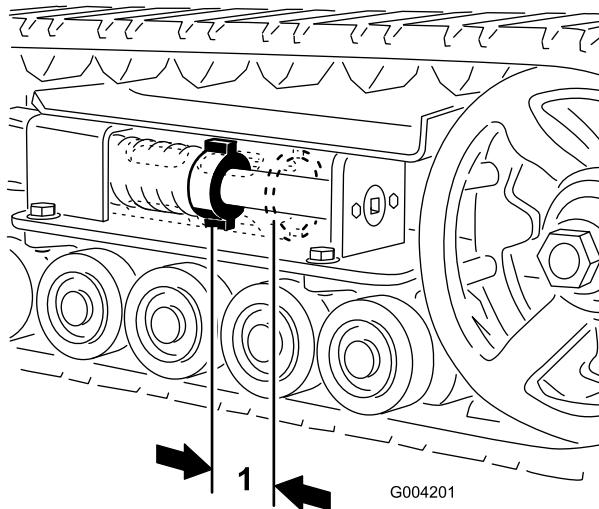
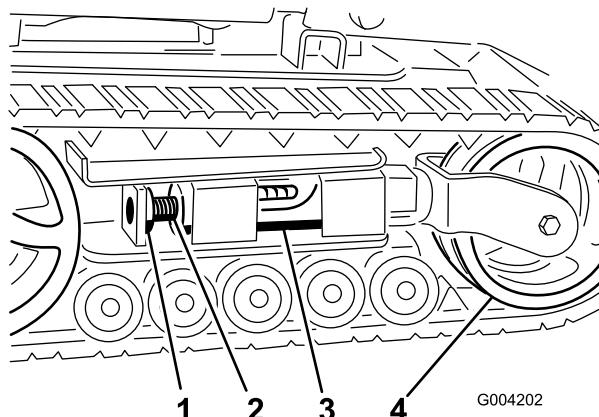
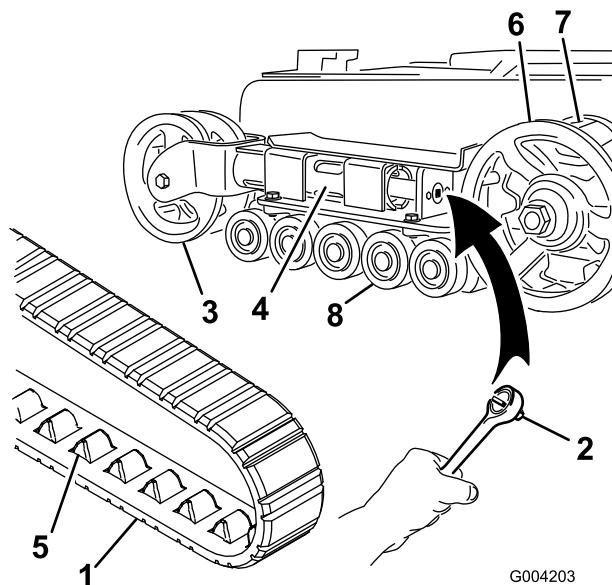
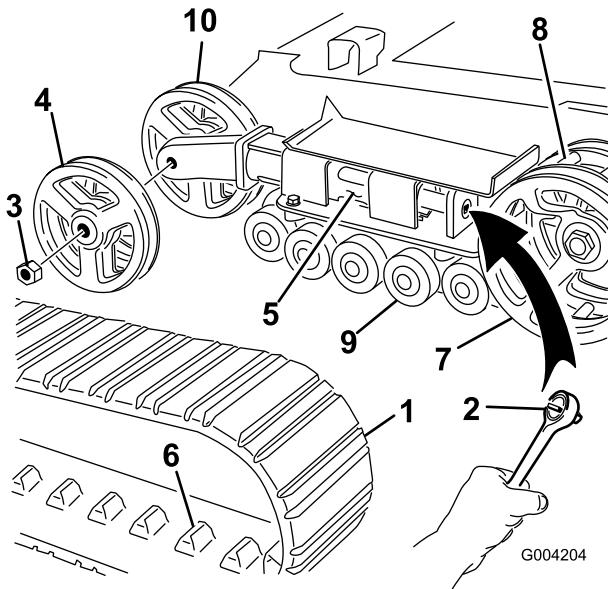

Figure 44
Figure 45
Figure 46
Figure 47
3. Remove the locking bolt and nut (Figure 45).
4. Using a 1/2 inch drive socket (Figure 46), turn the tensioning screw counter-clockwise until the distance between the tension nut and the back of the tension tube (Figure 44) is 2-3/4 inches (7 cm).
5. Align the closest notch in the tension screw to the locking bolt hole and secure the screw with the locking bolt and nut (Figure 45).
Check and adjust the track tension after the first 50 operating hours and every 100 operating hours thereafter. There should be 2-3/4 inches (7 cm) between the tension nut and the back of the tension tube (Figure 44). If not, adjust the track tension using the following procedure:
4. Using a 1/2 inch drive socket, release the drive tension by turning the tensioning screw clockwise (Figure 45 and Figure 46).
5. Push the tension wheel toward the rear of the unit to move the fork tube against the frame (Figure 46). (If it does not touch the frame, continue turning the tensioning screw until it does.)
7. When the track is off of the tension wheel, remove it from the drive sprocket and road wheels (Figure 46).
8. Beginning at the drive sprocket, coil the new track around the sprocket, ensuring that the lugs on the track fit between the spacers on the sprocket (Figure 46).
9. Push the track under and between the road wheels (Figure 46).
11. Turn the tensioning screw counter-clockwise until the distance between the tension nut and the back of the fork tube (Figure 44) is 2-3/4 inches (7 cm).
4. Using a 1/2 inch drive socket, release the drive tension by turning the tensioning screw clockwise (Figure 45 and Figure 47).
5. Push the tension wheel toward the rear of the unit to move the tension tube against the frame (Figure 47). (If it does not touch the frame, continue turning the tensioning screw until it does.)
6. Remove the nut securing the outer tension wheel and remove the wheel (Figure 47).
7. Remove the track (Figure 47).
8. Remove the nut securing the inner tension wheel and remove the wheel (Figure 47).
12. Install the inner tension wheel and secure it with the nut removed previously (Figure 47).
14. Install the new track, ensuring that the lugs in the track fit between the spacers in the middle of the drive sprocket (Figure 47).
15. Install the outer tension wheel and secure it with the nut removed previously (Figure 47).
17. Turn the tensioning screw counter-clockwise until the distance between the tension nut and the back of the tension tube (Figure 44) is 2-3/4 inches (7 cm).